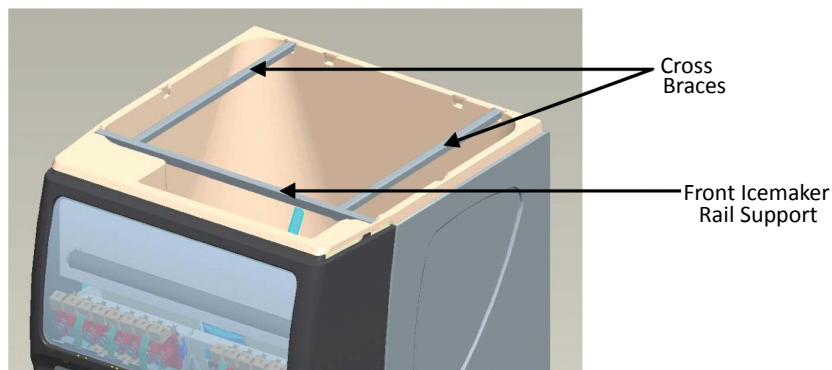

Figure 2.
2. Place Icemaker rail supports into pockets in the ice bin as shown in Figure 2.